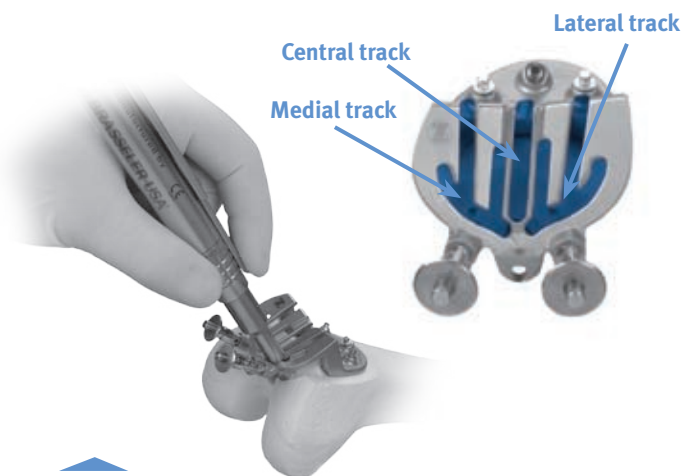

Fig. 38
- o Mill the entire lateral track (all tracks in the lateral zone) (Fig. 38).